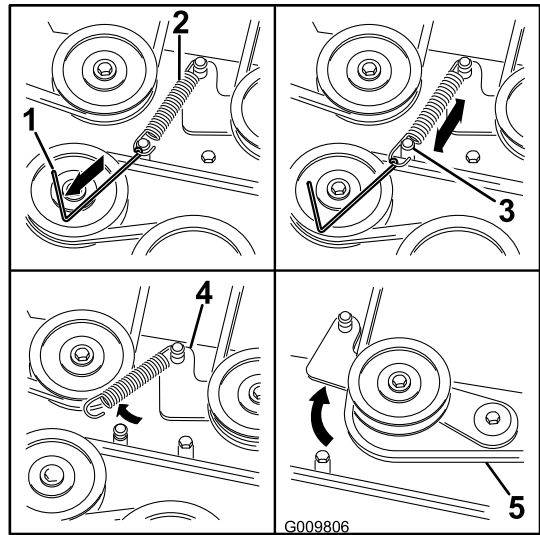

Figure 59
8. Using a spring removal tool, (Toro Part No. 92-5771), remove the idler spring from the deck post to remove tension on the idler pulley (Figure 59).
11. Install the new belt around the mower pulleys and the clutch pulley under the engine (Figure 59).
12. Using a spring-removal tool, (Toro Part No. 92-5771), install the idler spring over the deck post and placing tension on the idler pulley and mower belt (Figure 59).